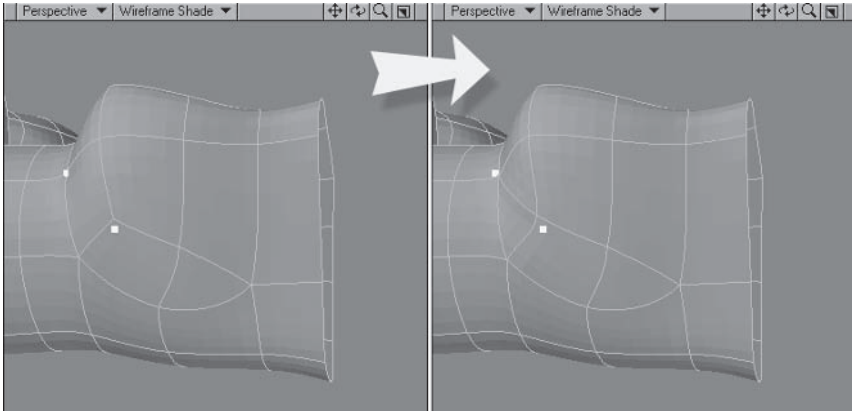

Figure 5.4-32. Bridge can be used to cut polygons.
10. Select the two points shown in Figure 5.4-32 and **Construct**➤**Combine**➤**Bridge**, cutting the quad into two triangles.